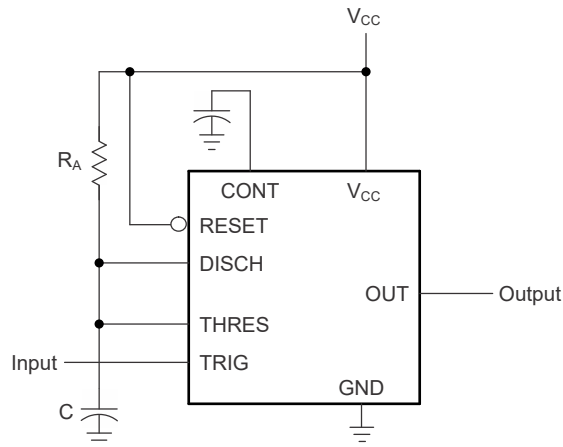

Figure 6-2. Circuit for Monostable Operation
(1) For conditions shown as MIN or MAX, use the appropriate value specified under *Recommended Operating Conditions*.
(2) Values specified are for a device in a monostable circuit similar to Figure 6-2, with the following component values: $R_A = 2k\Omega$ to $100k\Omega$, $C = 0.1\mu F$.
For monostable operation, Figure 6-2 shows how to connect any of these timers. If the output is low, application of a negative-going pulse to the trigger (TRIG) sets the flip-flop ($\bar{Q}$ goes low), drives the output high, and turns off Q1. Capacitor C is then charged through R_A until the voltage across the capacitor reaches the threshold voltage of the threshold (THRES) input. If TRIG has returned to a high level, the output of the threshold comparator resets the flip-flop ($\bar{Q}$ goes high), drives the output low, and discharges C through Q1.
Figure 6-5 shows that adding a second resistor, R_B , to the circuit of Figure 6-2 and connecting the trigger input to the threshold input causes the timer to self-trigger and run as a multivibrator. Capacitor C charges through R_A and R_B and then discharges through R_B only. Therefore, the duty cycle is controlled by the values of R_A and R_B .